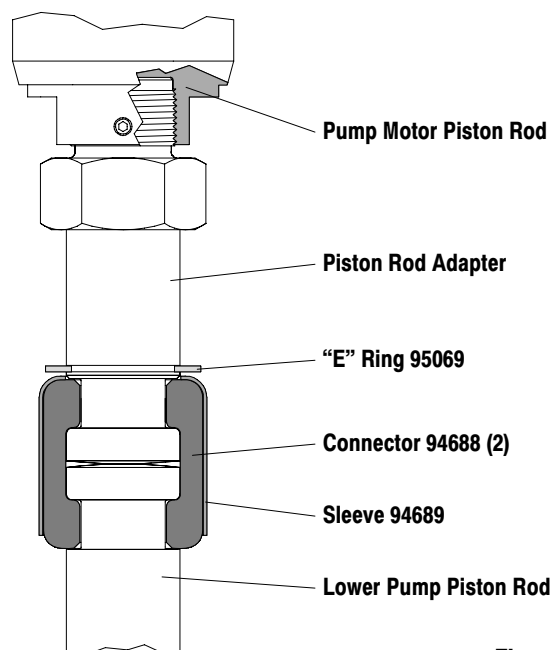

Figure 2
4. Using e-ring pliers, slide the “e” ring up far enough to allow the sleeve to move upward and release the two connectors (figure 2).